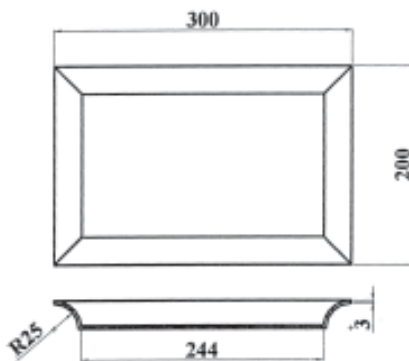

Fig. 8: Injection moulding job
c) For the component shown in fig. 8 a single impression injection mould is required. Find out the amount of cooling water to be circulated and cooling channel size.